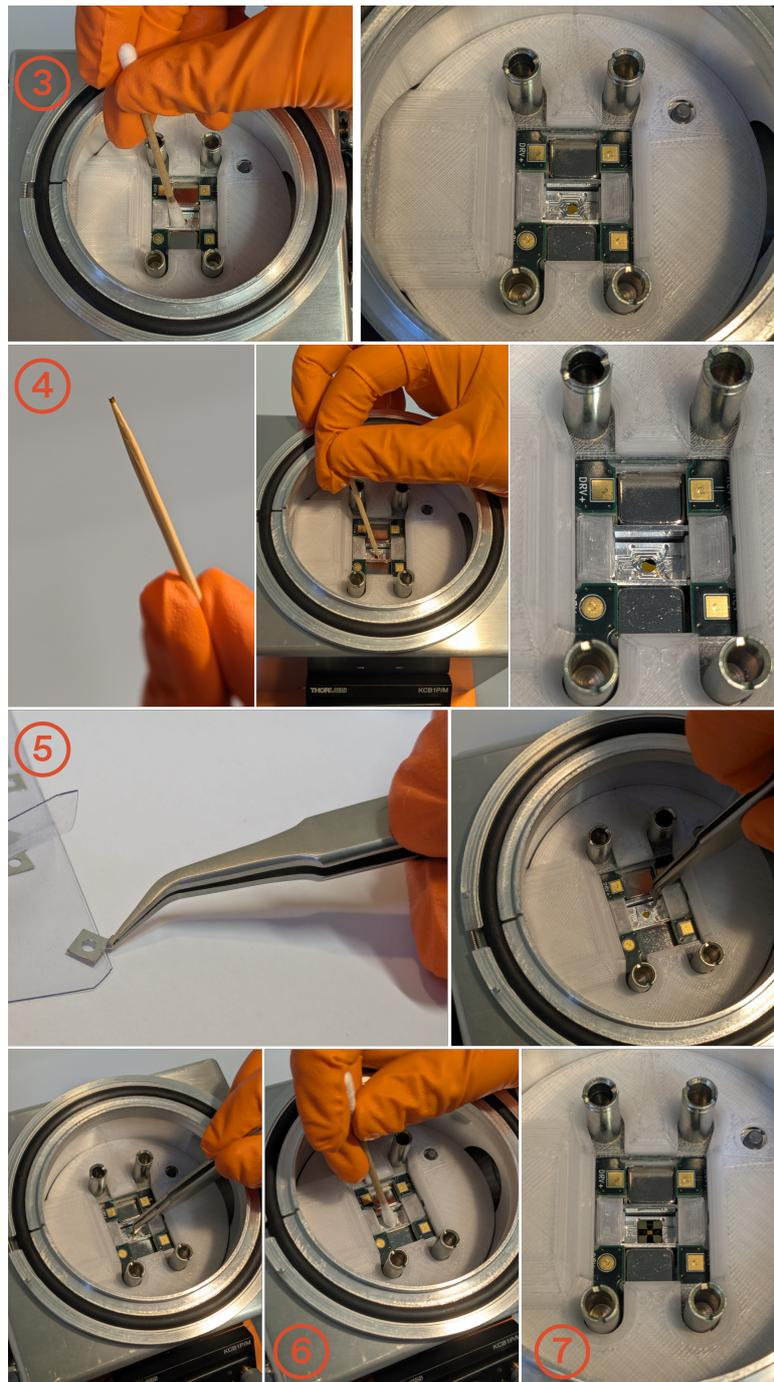

Figure 64: Visual support for the Indium foil exchange workflow.
3. Clean the chip holder with clean pressured air (optional) and a cotton swab dipped in isopropanol (see Figure 64 for this and all further steps).